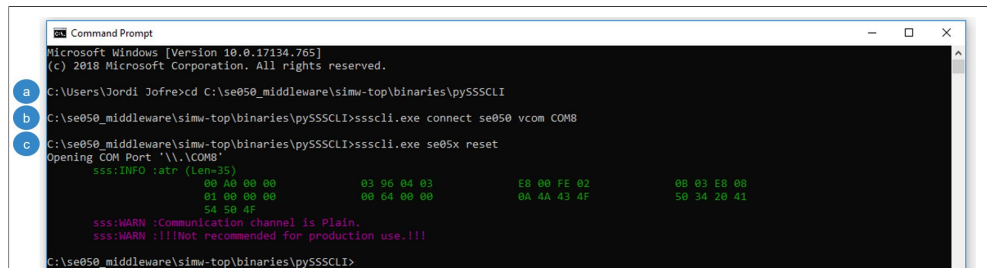

Figure 10. Start ssscli tool
2. Start the `ssscli` tool by sending the commands shown in Figure 10: